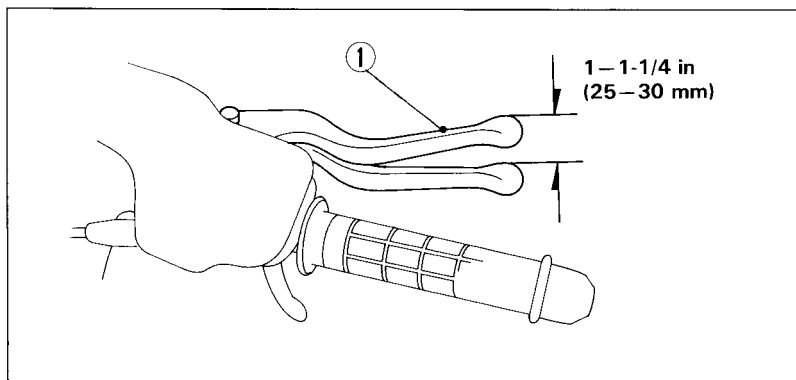

Fig. 4-22
1. Measure the distance the brake lever (Fig. 4-22) moves before the brakes start to take hold. Free play, measured at the tip of the front brake lever (1) should be within 1 – 1-1/4 in (25 – 30 mm).